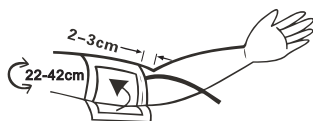

FIGURE 4: Proper Connection of the cuff and arm
- Check the distance between the edge of the cuff and the elbow is approx. 2~3cm. See figure 4.